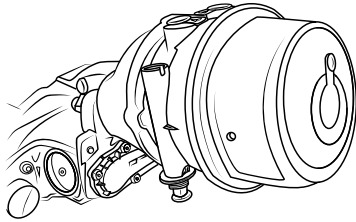

Figure 41 - Parking brake chamber
2. Remove the dust plug from parking brake chamber (Figure 41).